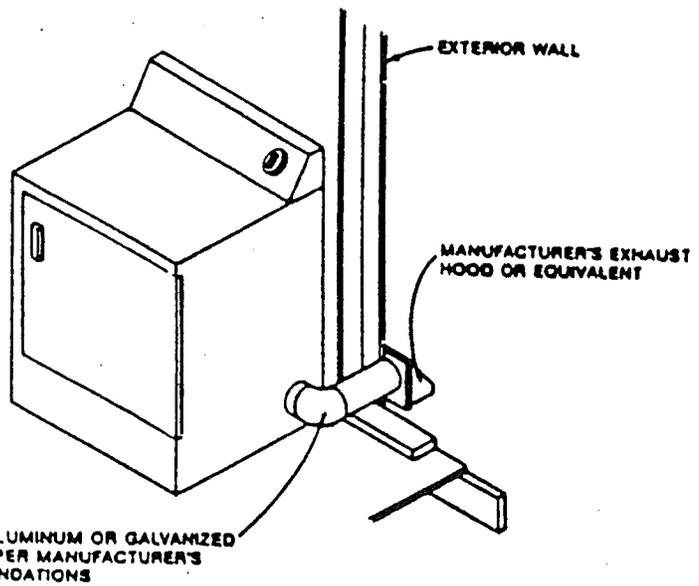

Figure 7.1 — RECOMMENDED DRYER VENTING METHOD
- 7.1 **Clothes dryer vent.** Your clothes dryer must exhaust to the exterior of the home, or of any perimeter skirting installed around it, through a moisture-lint exhaust system, as shown in Figure 7.1. **IMPORTANT:** Do NOT let the exhaust system end under the home where excess moisture or flammable material can accumulate. Vent openings are located in either the wall or the floor. After the duct is installed, seal the openings, both inside and outside. Follow the dryer manufacturer's instructions for installing the exhaust system.